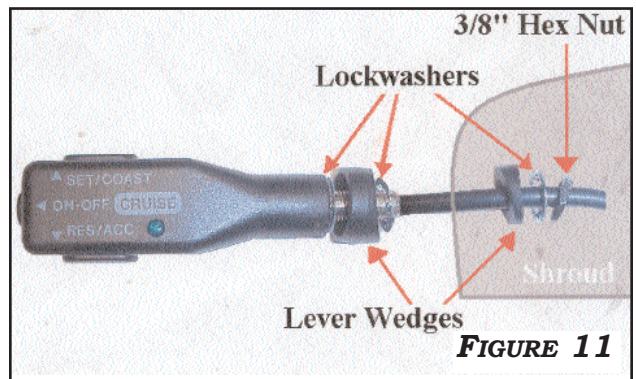

**FIGURE 9**
- SORENTO:** CONNECT **BLACK WIRE** OF MAIN CRUISE HARNESS TO **BLUE GROUND WIRE** IN FAR LEFT BOTTOM PIN OF CONNECTOR AT JUNCTION BOX BEHIND DRIVER-SIDE KICK PANEL. **FIGURE 9**.